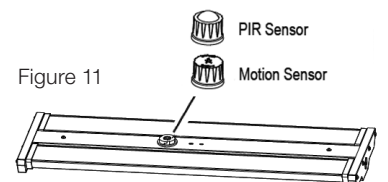

Figure 11
STEP 2: Twist-lock the sensor into the base (Figure 11).